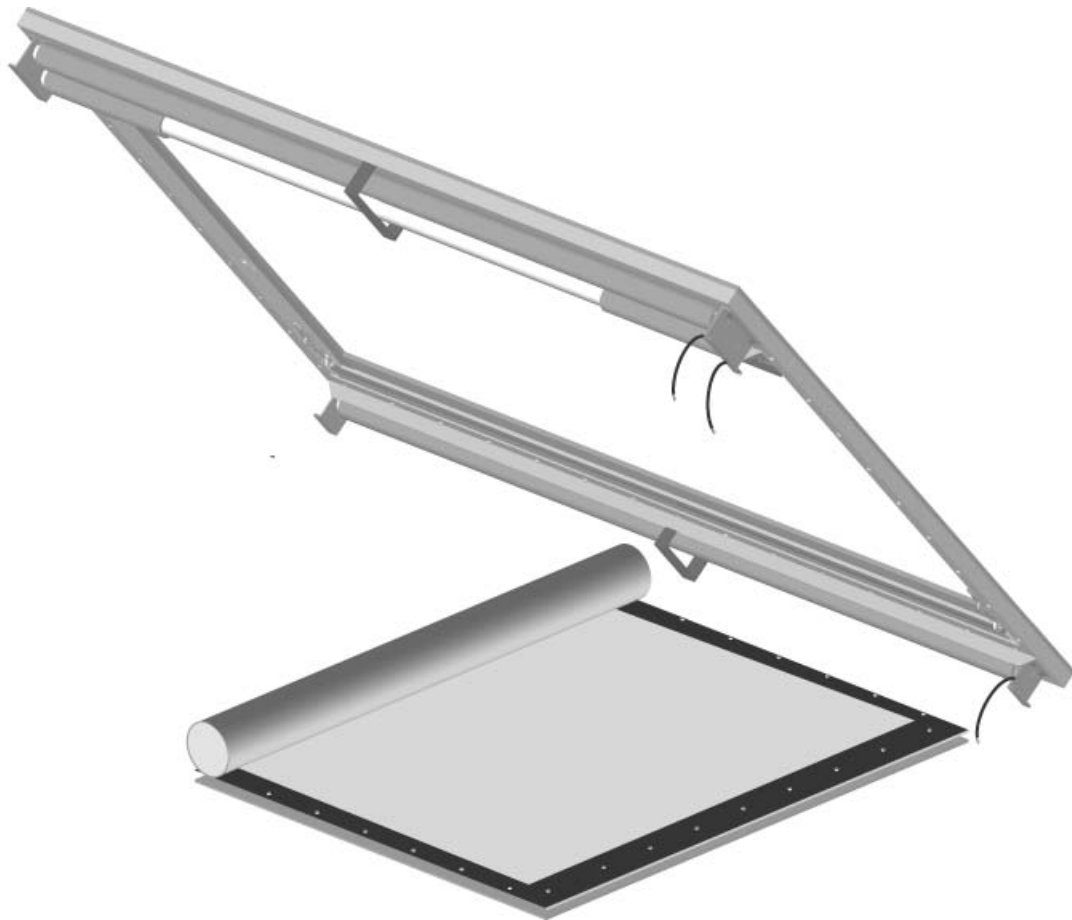

Figure 4: Unrolling the screen
3. Allow the paper to unroll between screen back and the floor. (This will keep the screen clean.) See Figure 4.